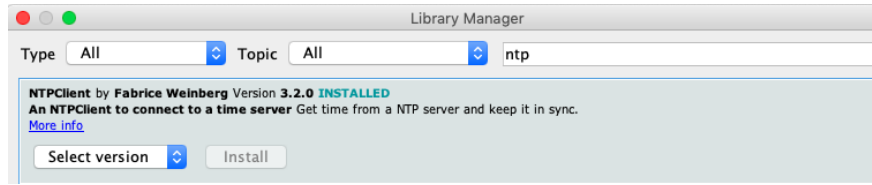

Figure 1: Installing an NTP Library
- Search for NTP in the top right box as shown in Figure 1.